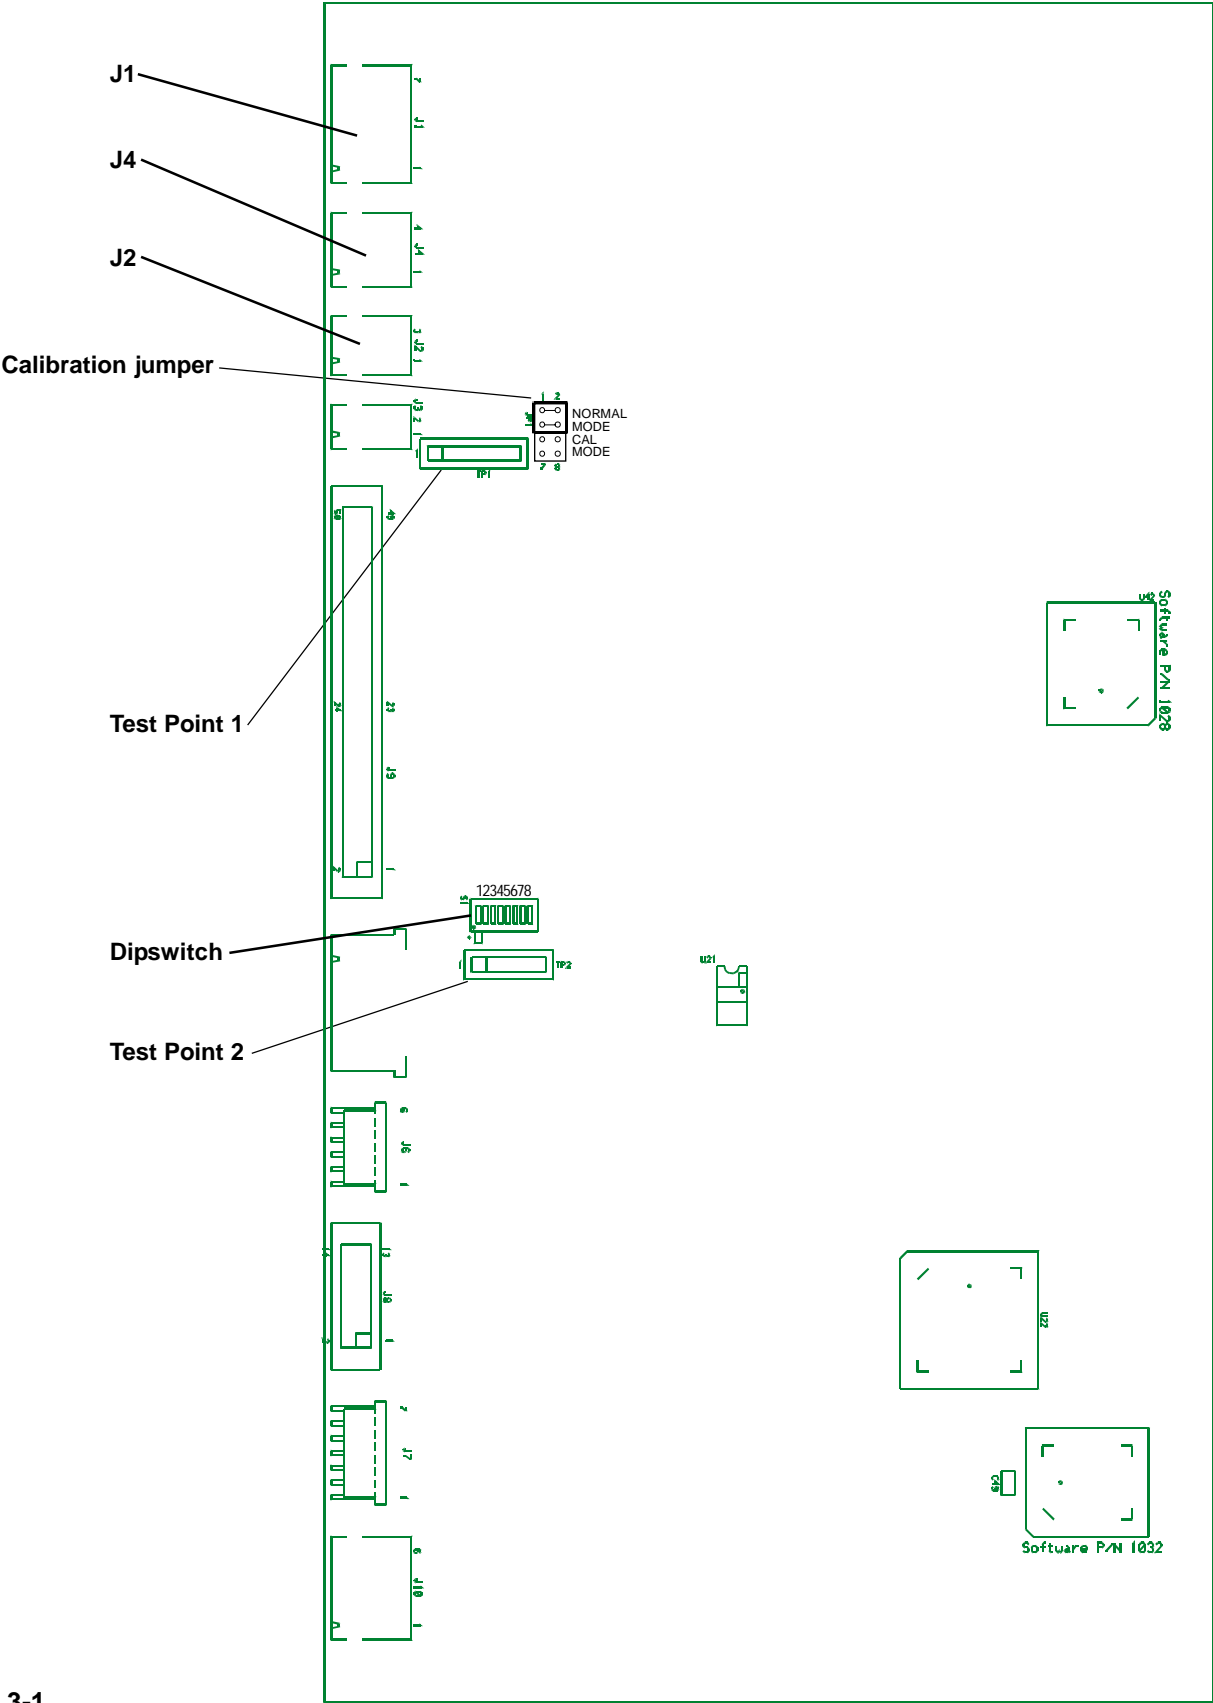

Figure 3-1
4. Move jumper JP1 to the CAL MODE position on the control board (see Figure 3-1). Be sure to orient the jumper correctly so pins 5-6 and 7-8 are shorted.